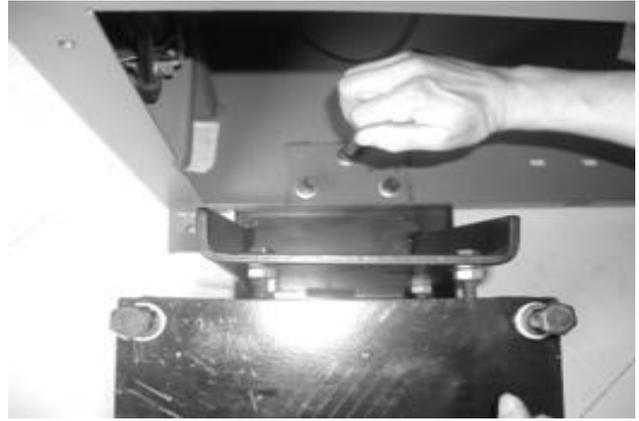

Fig 7-2
7.1.3 Push the platform of the base plate of the base assembly into the body through base plate on the left-back side of the body. Align the thread hole to the reinforce hole and use the bolt and washer to fix. (Fig7-2)